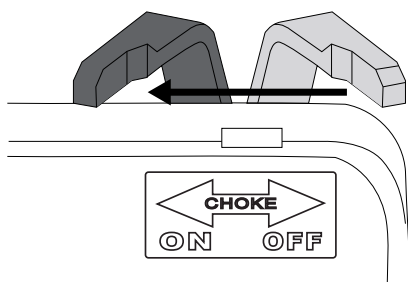

Figure 9 - Choke Lever - ON
7. Move the choke lever to the **ON** position (see Figure 9 below).